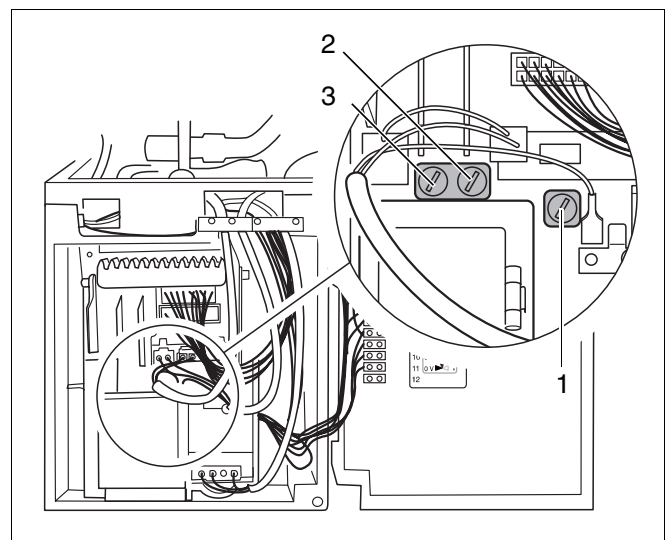

Fig. 60 Checking the miniature fuse
- Check miniature fuses (fig. 60) for correct functioning, or carry out visual inspection. If defective, fit new fuse (1.25 AT).